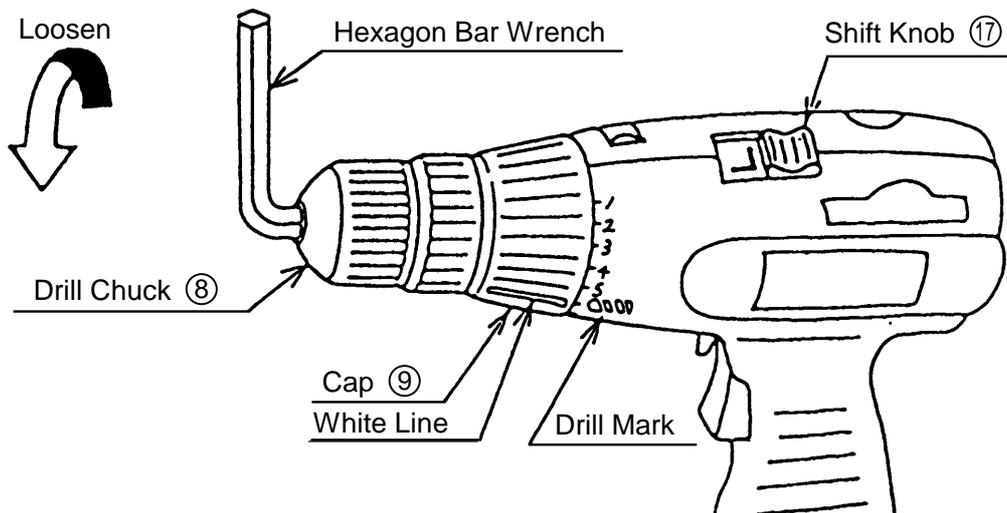

Fig. 1
(1) Removal of the Drill Chuck (8) : (Fig.1)